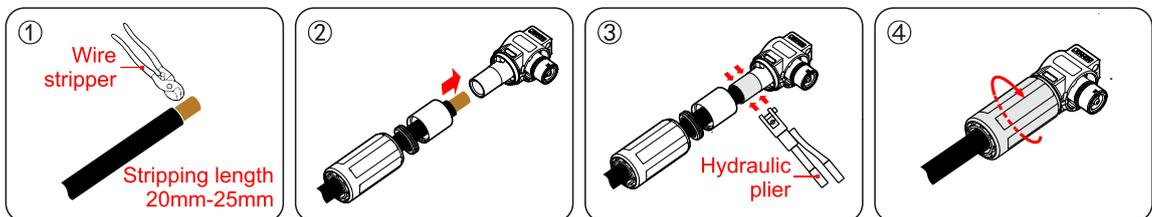

Figure3-17 Crimp AC cables
Step 2 Crimp the AC cables (U, V, W) into the aviation plugs, as shown in Figure3-17.